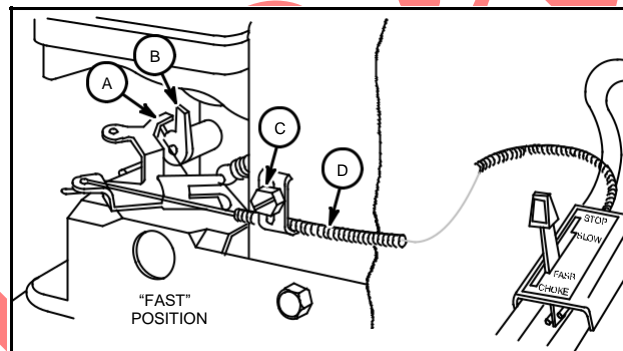

Fig. 253 - CHOKE-A-MATIC CONTROL, TYPICAL
2. Then mount remote control with casing clamp as shown in Fig. 253.
6. Tighten screw "C." Recheck operation of controls after adjustment, Fig. 253.